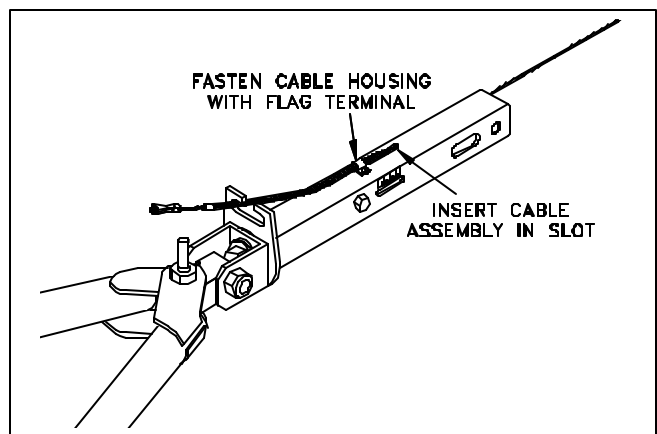

Figure 10
- Slide the cable assembly back into the slotted hole in the AutoStop tube and secure the cable clamp with the flag terminal and the round head screw. Be sure the plastic cable housing is inserted in the slot so the inside cable does not rub at the slot, but also be sure the cable assembly isn't inserted too far that it interferes with the spring inside the tubing. See Figure 10.